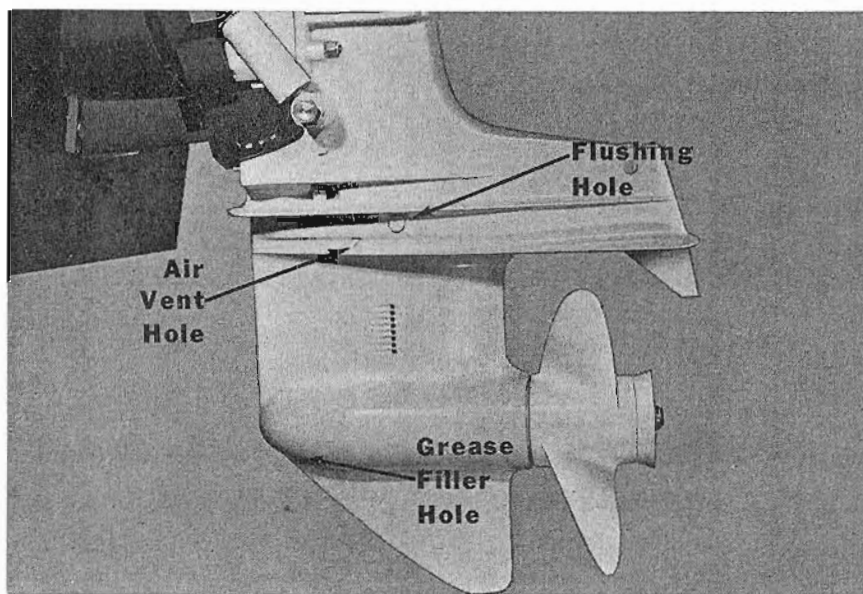

Figure 1.
Therefore, all MerCruiser IA-IB-IC E-Z Shift gear housing assemblies -- within the serial number range listed, over-- should have the lubricant recirculating device installed on a no-charge basis. Order one (1) Part No. B-39206A1 lubricant recirculating device for each MerCruiser IA-IB-IC E-Z Shift drive unit which does not incorporate this device. (See paragraph following Figure 1.) Order from your nearest MerCruiser distributor or factory branch and give the model number (IA, IB or IC) and serial number of the drive unit.
Any unit with a serial number above those listed and those, which are stamped "2" or "3" or have two (2) center punch marks between the oil vent plug and the flush plug, incorporate this improvement and do not require installation of this device. Refer to Figure 1 for stamping location.